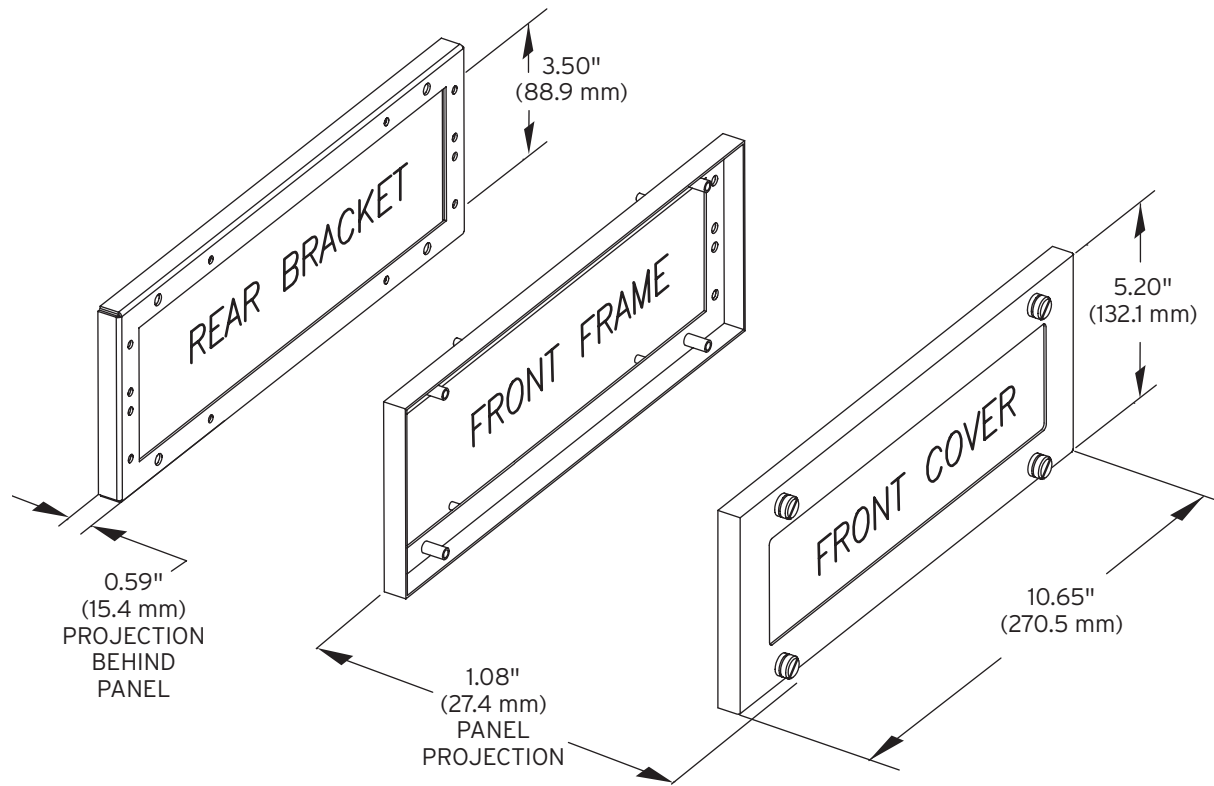

Figure 1 SEL-9104 Mounting Bezel
- Step 2. Refer to *Figure 1* to attach the front frame and rear bracket to the panel: